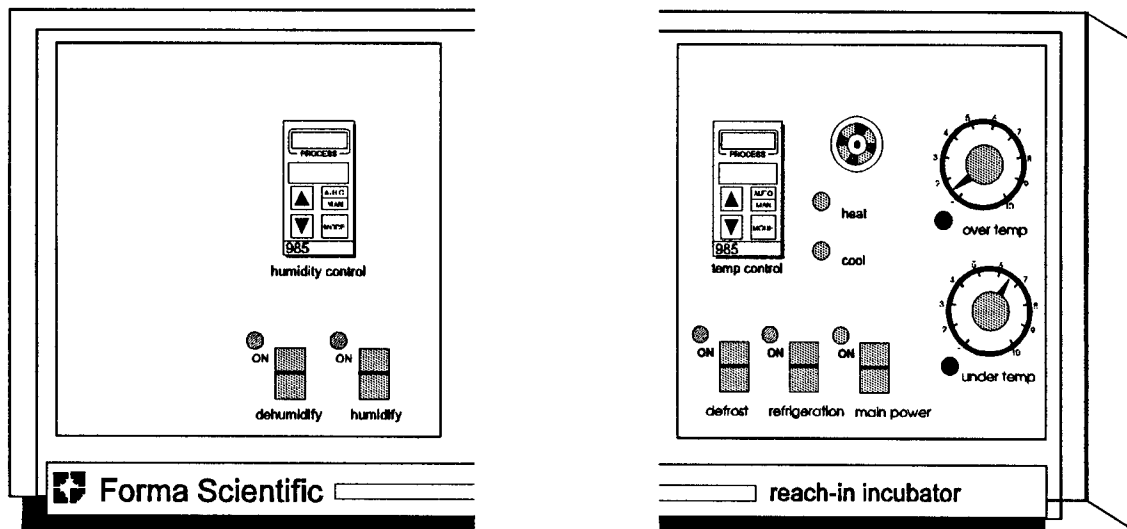

Figure 3-2
3.1 Main Power Switch and Indicator Light (Refer to Figure 3-2)
3.2 Refrigeration Switch and Indicator Light (Refer to figure 3-2)
3.3 Defrost Switch and Indicator Light (Refer to Figure 3-2)
3.4 Overtemp Safety Control, Indicator Light and Audible Alarm (Refer to Figure 3-2)
3.5 Undertemp Safety Control, Indicator Light and Audible Alarm (Refer to Figure 3-2)
3.6 Humidify Switch and Indicator Light (Refer to Figure 3-2)
3.7 Dehumidify Switch and Indicator Light (Refer to Figure 3-2)